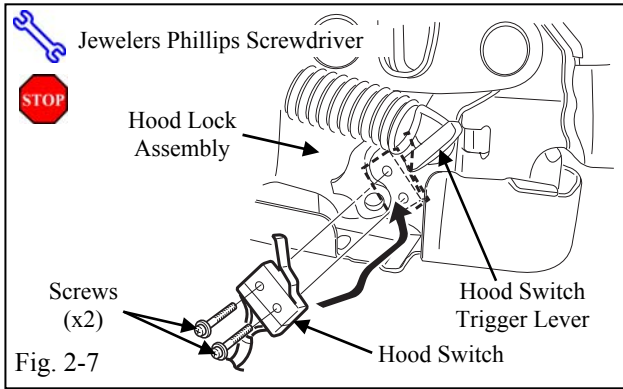

Fig. 2-7
- (g) Position the Hood Switch Plate so that it makes contact with the Hood Lock Trigger Lever underneath as shown. (Fig. 2-7)
- (h) Using 2 Screws from the kit, install the Hood Switch. (Fig. 2-7)
- (1) Verify the Screws are tightened securely.